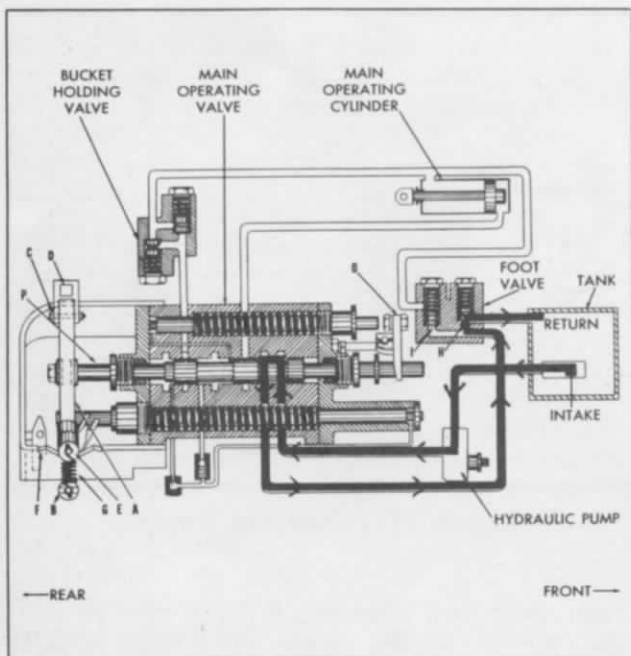

Figure 12 - Neutral Position
a. NEUTRAL POSITION OF MAIN VALVE. (See figure 12.) With the main operating valve in the neutral position, oil is by-passed under low pressure from pump to tank. The main center plunger P is held in position by means of a valve control mechanism which is attached to the rear end of plunger P. This control mechanism consists of two arms A and B which may pivot up or down on pivot bolt C. These hinged ends of the arms are pinned to the vertical shaft D. The rear ends of the arms are equipped with rollers E which roll on a cam F when valve lever is moved. The rollers are held in the position selected by tension of spring G which holds rollers in large Vee of cam when in neutral